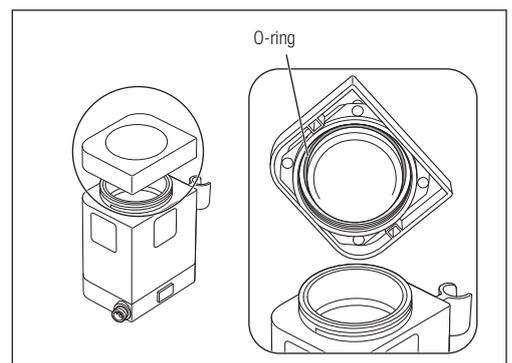

Fig. 49
- 2) Remove the O-ring from the inside of the Chamber Cap using a needle, etc. (Fig. 49).